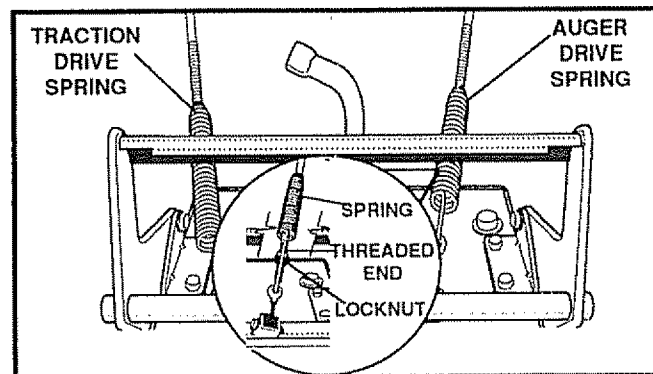

FIG. 25
- Pull spring cover up to expose spring. Push the cable through the spring (See Fig. 25) to expose the threaded portion of the cable.
- Hold the square end of the threaded portion with pliers and adjust the locknut until the excess slack is removed (See Fig. 25 inset).